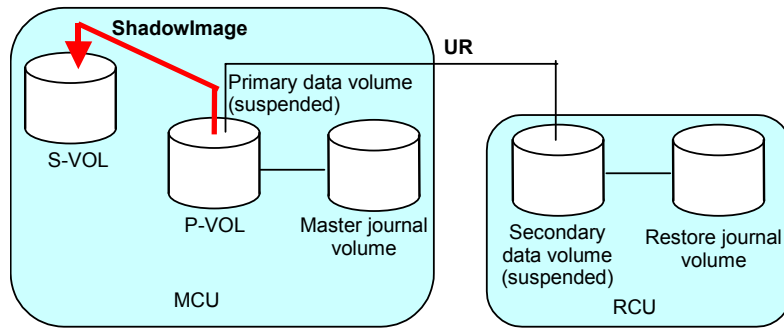

Figure 3-13 Restoring a ShadowImage P-VOL - Step 5
5. Execute the CCI **paircreate** command on the ShadowImage pair to perform copying in the reverse direction (see Figure 3-13).